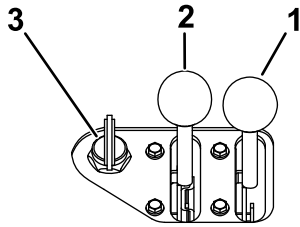

Figure 16
1. Move the throttle lever midway between the SLOW and FAST positions (Figure 16).
- A. Move the choke lever to the ON position (Figure 16).
- B. Turn the key to the ON position (Figure 16). When the engine starts, release the key.
- C. Gradually move the choke lever to the OFF position (Figure 16). If the engine stalls or hesitates, engage the choke again until the engine warms up.
3. For Kohler engines, turn the key to the ON position (Figure 16). When the engine starts, release the key.
4. Move the throttle lever to the desired setting (Figure 16).
2. Move the throttle lever to the SLOW position (Figure 16).